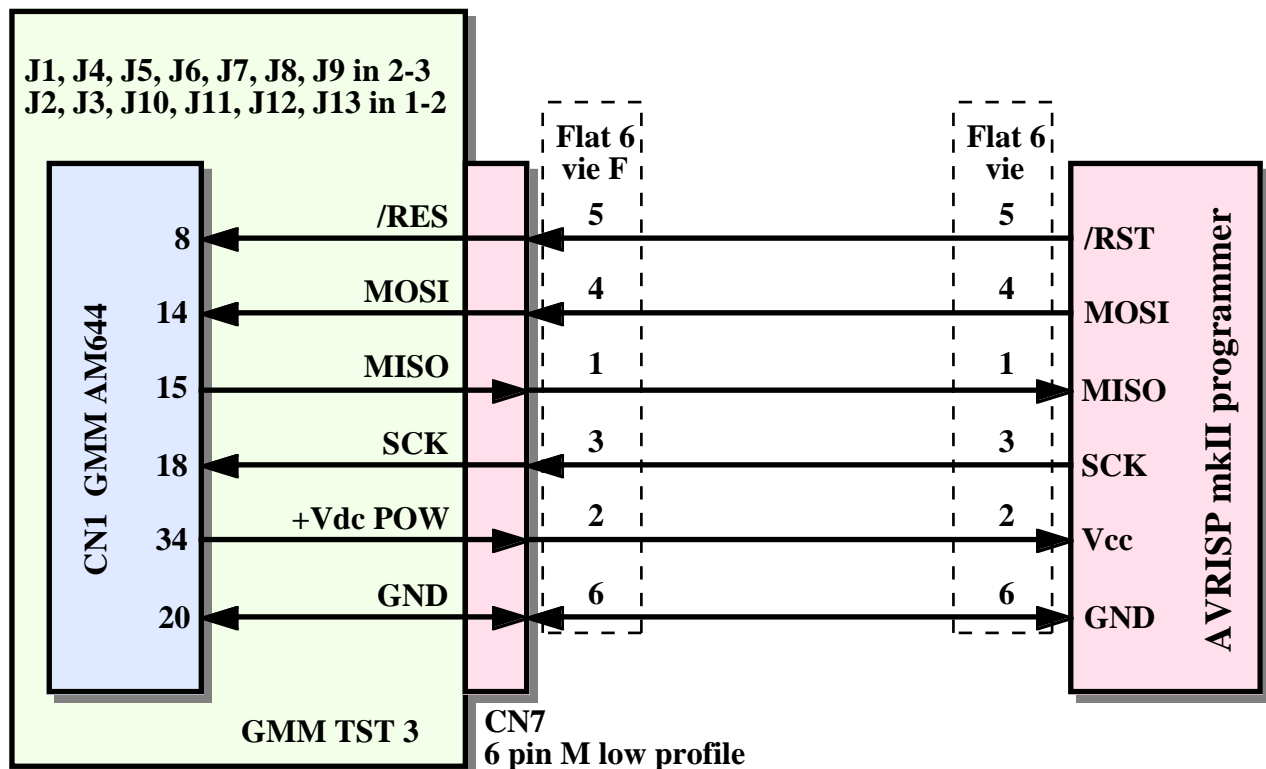

FIGURE D3: AVR ISP MK II CONNECTION
- c) Connect the **AVRISP mk II** to the ISP interface of the **GMM AM644**, making sure to connect the 6 signals of the same one, as you can see in the previous figure. If the user has got the **GMM TST 3** the connection is reduced to a six ways flat cable of the **AVRISP mk II**, directly inserted to the CN7 connector of the card, as you can see in the figure D3.
- d) As you can see in the figure D3, the ISP interface uses 4 signals of the Mini Mode and its electricity supply. For this reason, while the **AVRISP mk II** is used, the signals connected to the 8, 14, 15, 18 pins of the socket, can't be used by the user.